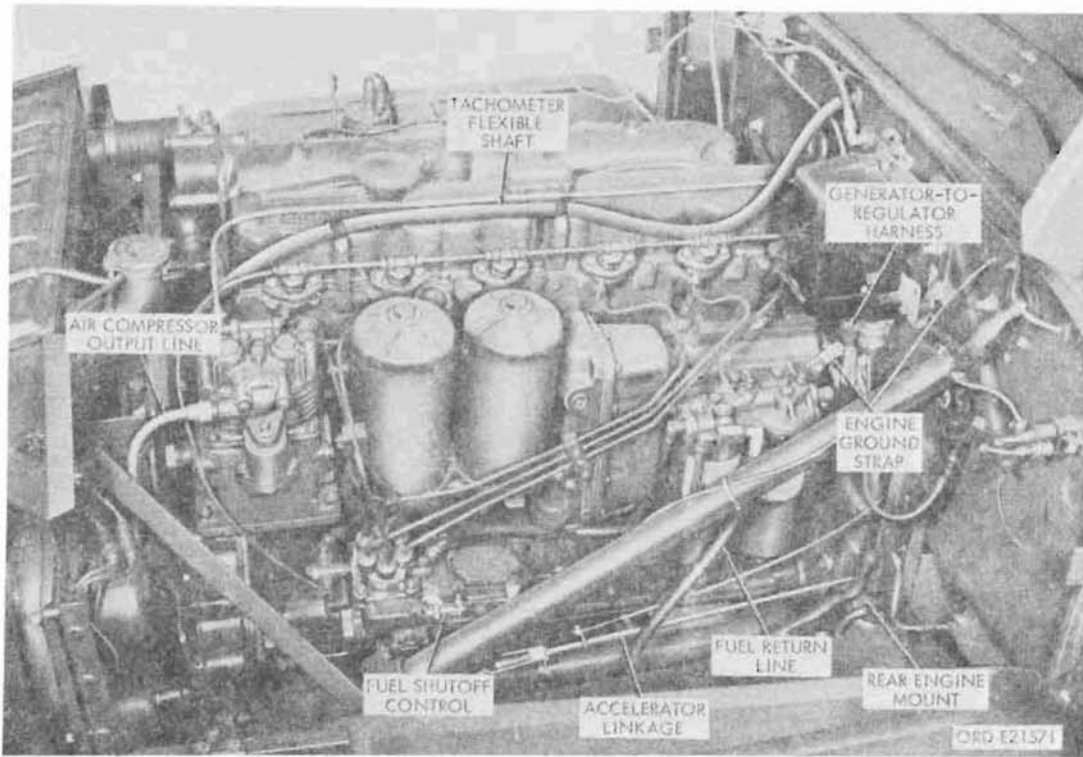
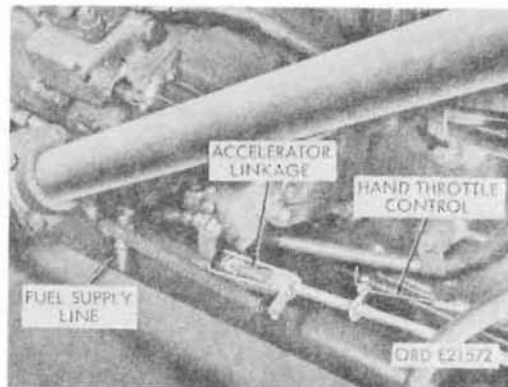

Figure 107. Disconnect points at left side of multifuel engine
Figure 109. Accelerator linkage - later models
b. *Disconnect Points at Left Side of Engine (fig. 107).*
- (1) Remove locknuts and bolts and disconnect rear engine mounts.
- (2) Disconnect accelerator linkage (fig. 109). Remove nut and lockwasher, disconnect rack control link from fuel rack lever.